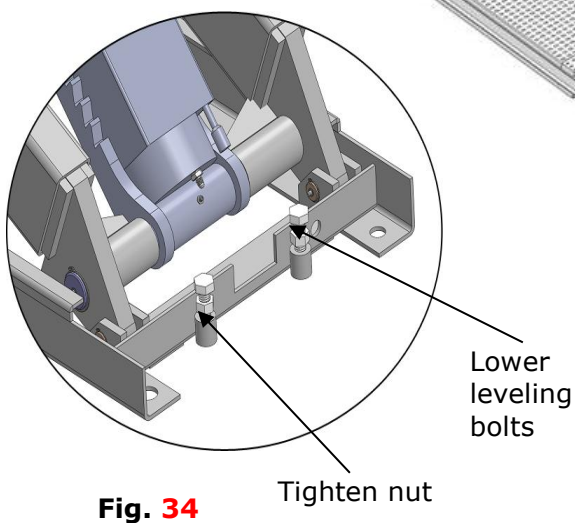
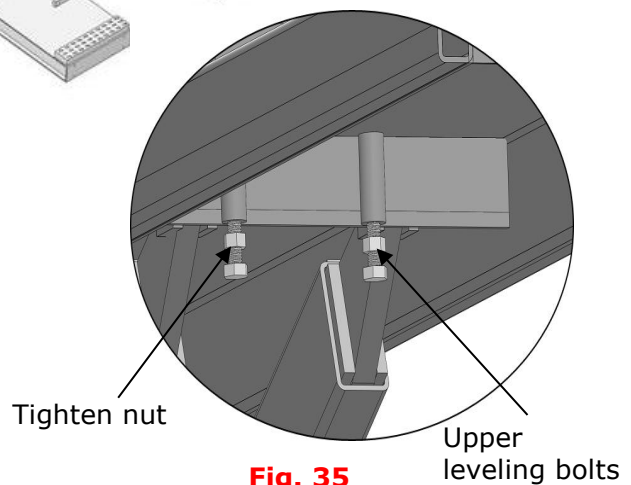

Fig. 34
Fig. 35
D. Check by level bar and adjust the lower leveling bolts(See Fig.34), use the shims to adjust the platforms until the front and rear of two platforms are in the same level. Adjust the Upper leveling bolts(See Fig.35) after it touch the Lower leveling bolts when lower to the lowest position. Then Tighten nut by wrench.